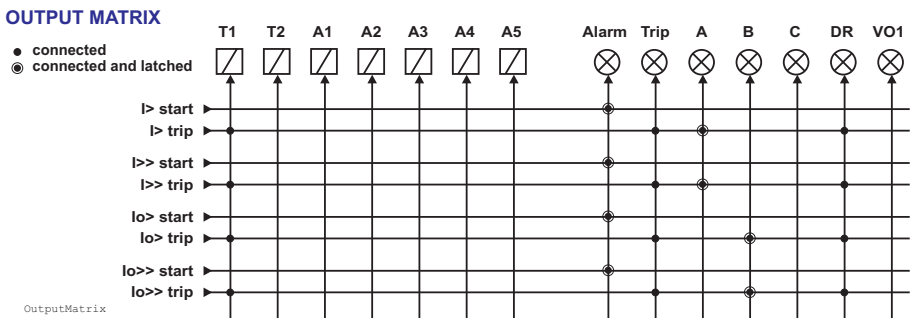

Figure 8.1: Output matrix.
There are two LED indicators named "Alarm" and "Trip" on the front panel. Furthermore there are three general purpose LED indicators - "A", "B" and "C" - available for customer-specific indications. In addition, the triggering of the disturbance recorder (DR) and virtual outputs are configurable in the output matrix. See an example in Figure 8.1.